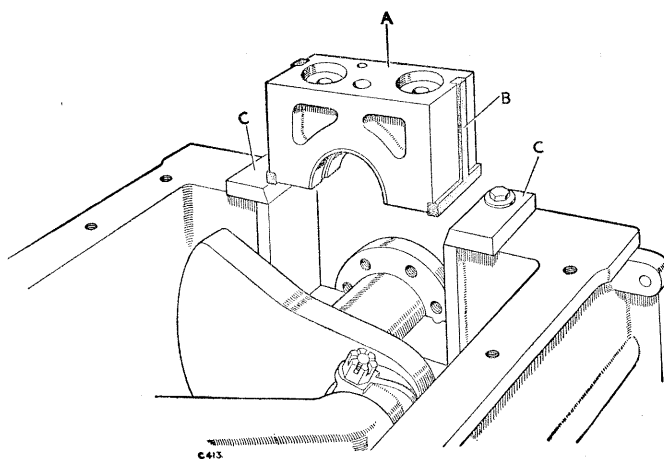

Fig. A-44—Fitting rear bearing cap and seal assembly
15. Fitment of the rear main bearing cap, with side seals in position, will be facilitated by using a lead tool (Part No. 270304) fitted to the sump studs adjacent to rear bearing cap aperture. See Fig. A-44.